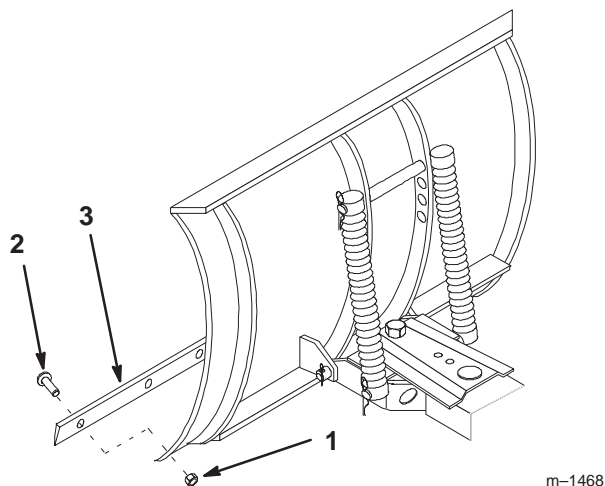

Figure 19
3. Remove the lock nuts and carriage bolts to remove the scraper blade (Fig. 19).
4. Reverse the scraper blade to replace a worn edge and install it with the previously removed hardware (Fig. 19).